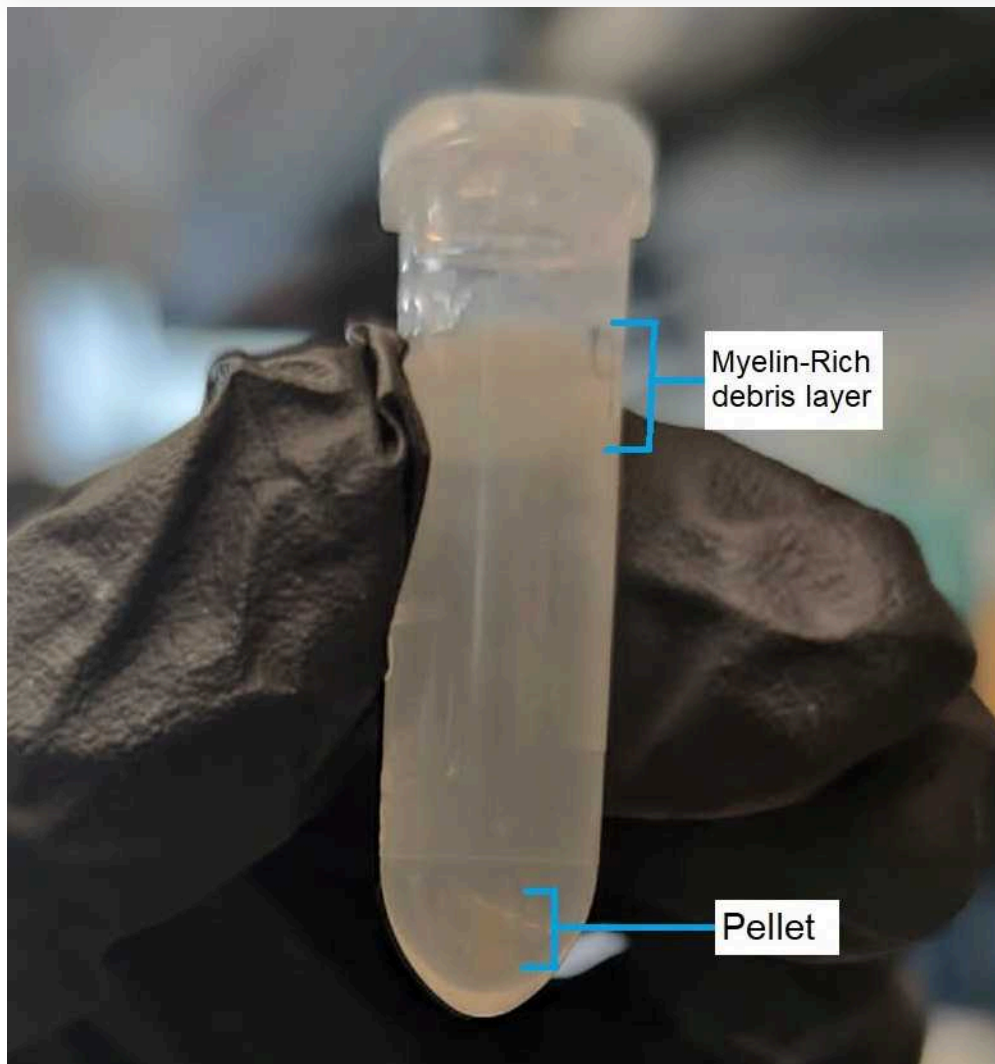

Figure 2. A representation of what should result after centrifuging the different concentrations of Iodixanol solution.
- 19 After centrifugation, remove and discard the myelin-rich debris layer on the top (see **Figure 2**). Then, remove and discard the aqueous supernatant, without disrupting the nuclei pellet  On ice .